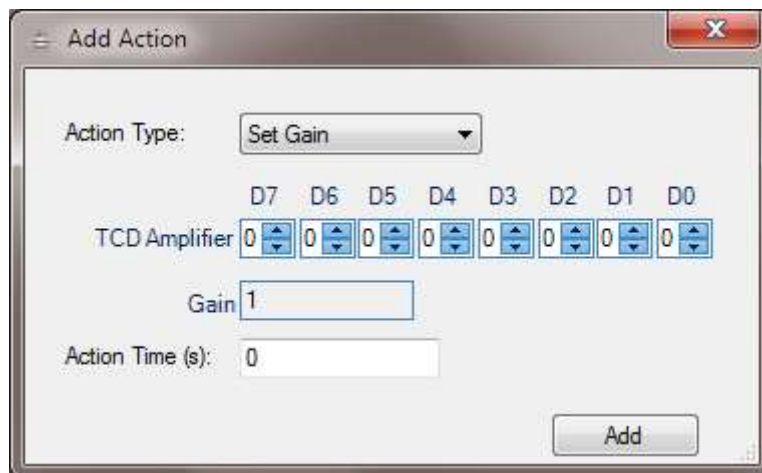

Figure 5-9: Set Gain Action Dialog Box
- If the Set Gain action is selected, the Add Action dialog box shown in Figure 5-9 is presented.